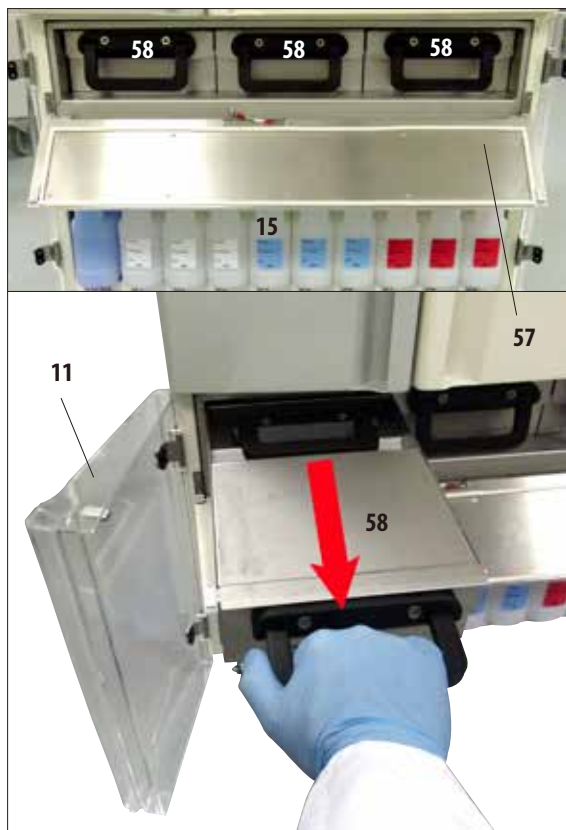

Fig. 41
- The instrument has three heated paraffin baths (58), each with a max. capacity of 4.9 l of liquid paraffin.
- They are located behind a flap (57) over the reagent compartment with the system bottles (15). To access the flap, open the two lower Plexiglas doors (11, 12).
- The individual paraffin baths can be pulled out for filling (Fig. 41) and can also be removed from the compartment for cleaning.